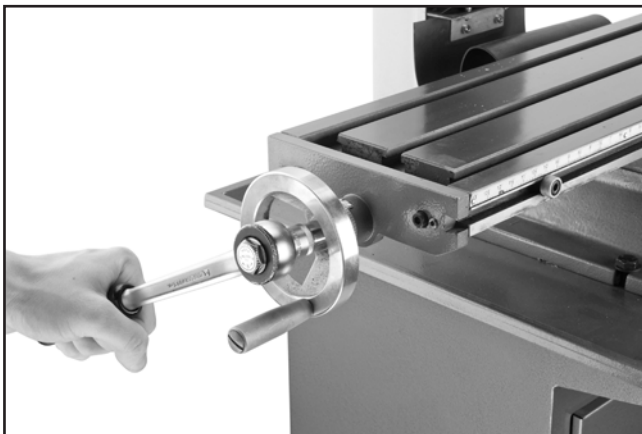

Figure 3. Removing left table handwheel.
1. Using a 13mm socket wrench, remove the left table handwheel, as shown in **Figure 3**.